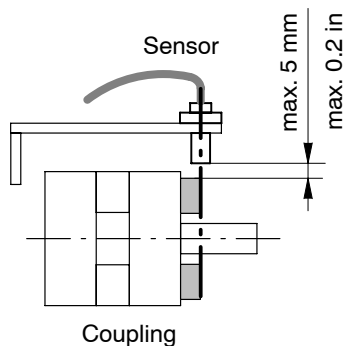

Fig. 7-25
18. Align sensor. Refer to Fig. 7-25.